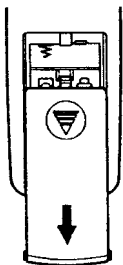

Fig. 1
- ① Remove the battery cover on the rear of the unit. (See Figure 1.)